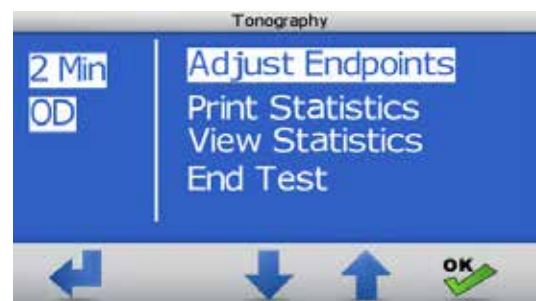

Figure 7-13, Results
5. Select the "End Test" option and touch the OK icon to finish the test. Refer to Figure 7-13.
2. Select “Adjust Endpoints” and touch the OK icon. Refer to Figure 7-13.